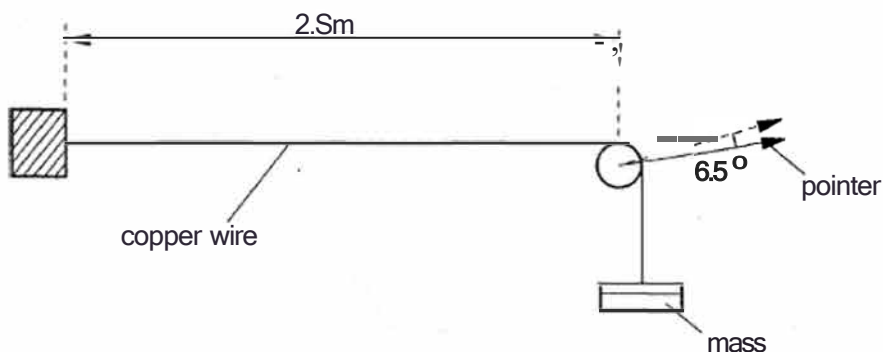

Fig.3.2
- (b) A copper wire is fixed at one end and passes over a pulley. A mass hangs from the free end of the wire, as shown in Fig. 3.2.